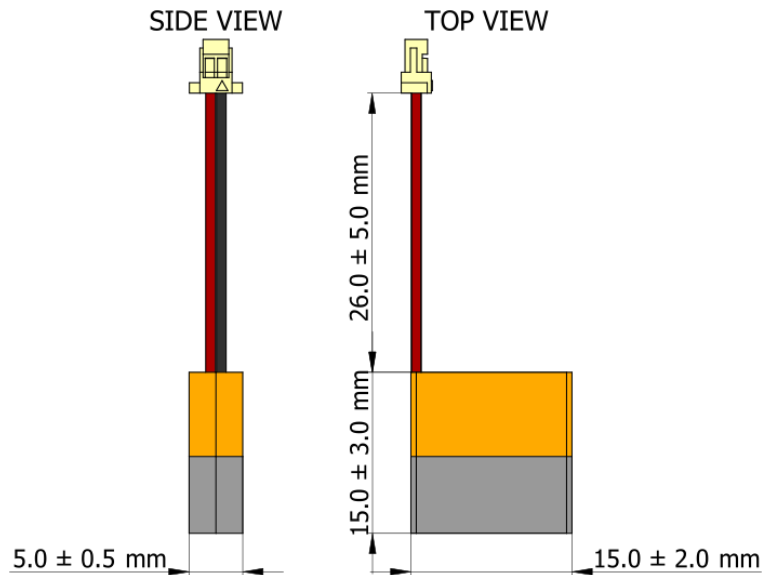

Figure 1: 70mAh Battery Drawing & Dimensions
**1.1 Outline Dimensions:** See attached drawing, Figure 1, for dimensions.